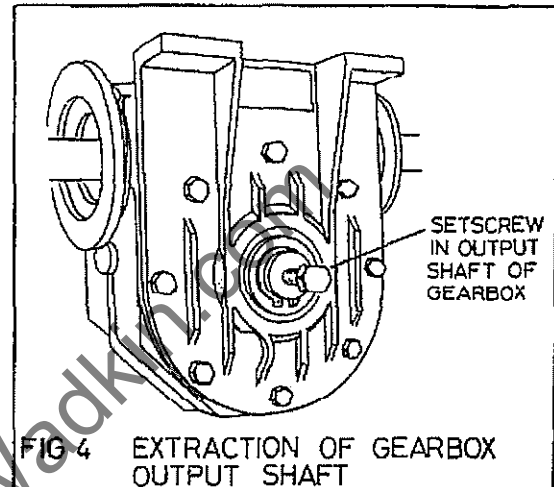

FIG 4 EXTRACTION OF GEARBOX OUTPUT SHAFT
Replacing Bottom Feed Roller Shaft Bearings (Fig 4 and 5).
- 5) The output shafts of the 'siti' gearboxes which connect to the universal couplings have a 10mm tapped hole in the face. Insert a setscrew to full thread depth of each in turn and use this to extract the output shaft approximately 50mm (see Fig 4).